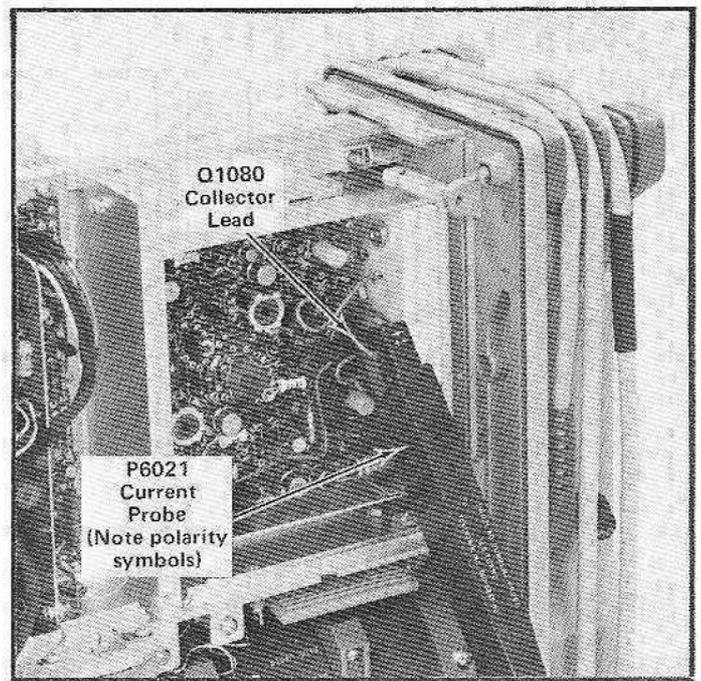

Fig. 5-1. Measuring Q1980 collector current.
- a. Turn off instrument power, disconnect the power line, and remove the power supply compartment shields to provide access to leads connected to transistor Q1080. See Fig. 5-1.